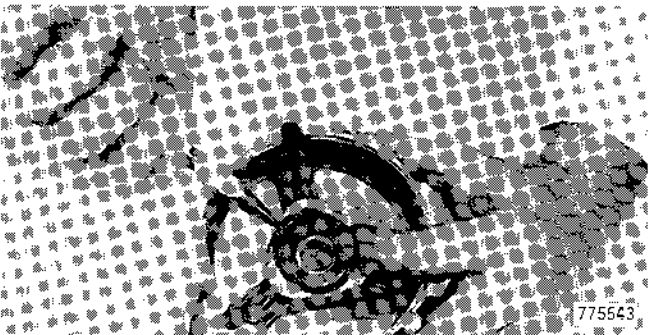

Figure 37
3. Install dust seal. Install snap ring in groove in front frame, Figure 37.